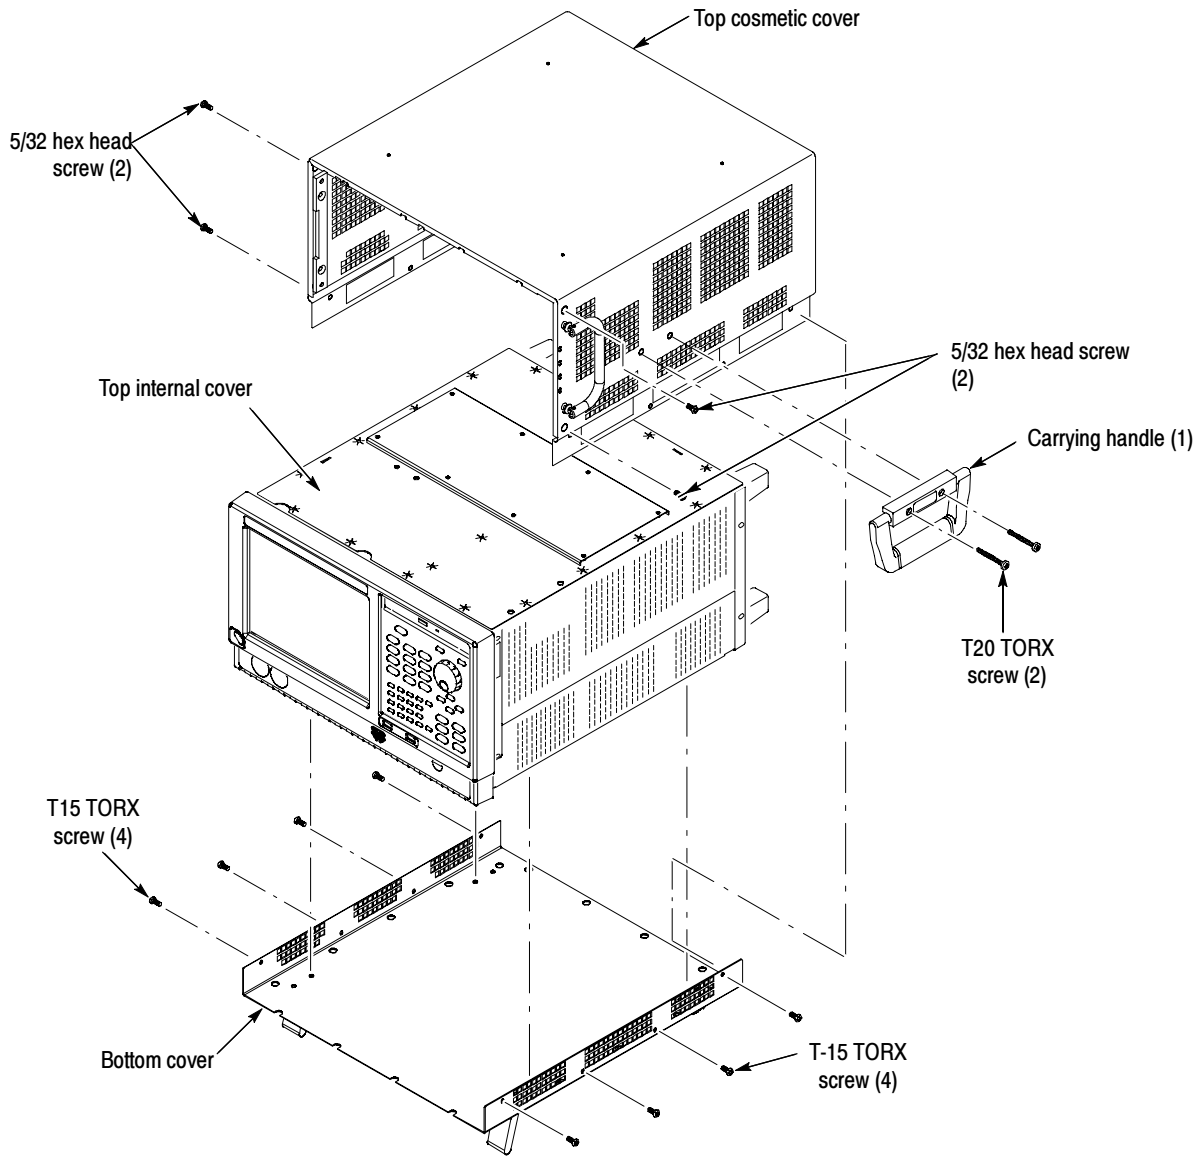

Figure 12: Removing cosmetic covers
2. Remove the two T15 screws that secure the plastic carrying handle to the side of the instrument (it is not necessary to remove the black metal handles). See Figure 12 on page 18.